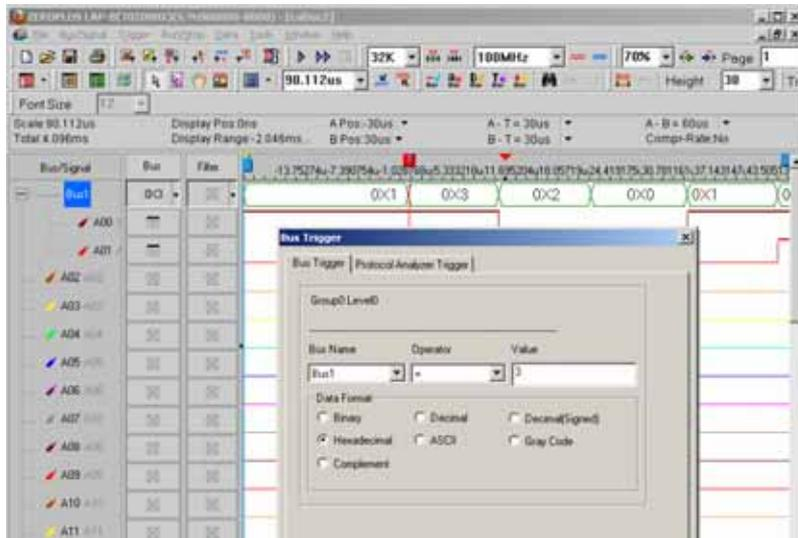

Fig 4-35 – Bus Trigger Setup
**Step 4.** Click **Run** and activate the signal from the tested board to the system to get the result as shown in Fig 4-35.